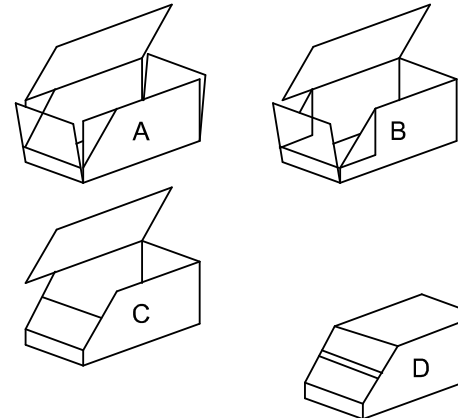

FIGURE 6
4. WHERE GABION STRUCTURES WITH NON-RECTANGULAR SHAPES ARE SPECIFIED, MODIFICATIONS TO THE BOXES ARE REQUIRED. GABION BOXES ARE FLEXIBLE ENOUGH TO CONFORM TO BENDS DOWN TO A RADIUS OF 25m WITHOUT WIRING. FIRST WIRE A NUMBER OF BOXES TOGETHER AND BEND THEM UP TO THE CURVE SET OUT PREVIOUSLY, HOLDING THEM IN POSITION DURING FILLING. OTHER SHAPES, BEVELS AND MITRES, SHOULD BE FORMED BY CUTTING AND FOLDING THE PANELS TO THE REQUIRED ANGLES AND SIZES (FIGURE 6).